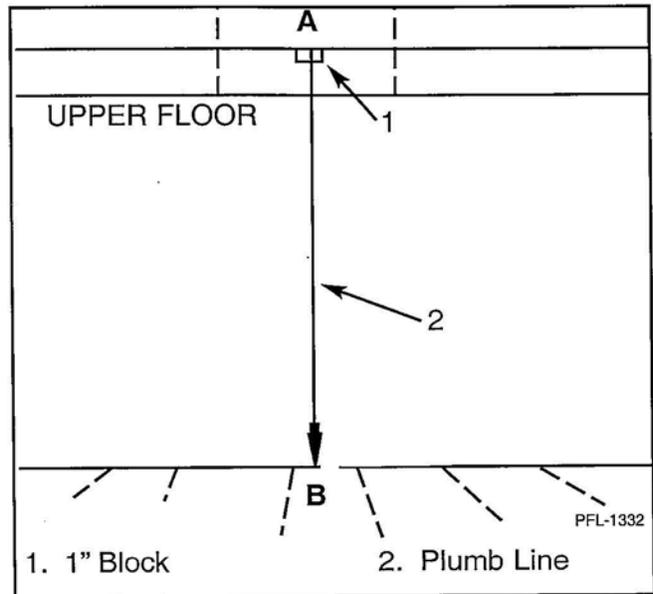

Figure 3
3. Drop line 1" away from upper floor on center line. One inch is a standard distance. Deviations may exist. Check GA drawing for special dimensions. See Figure 3.